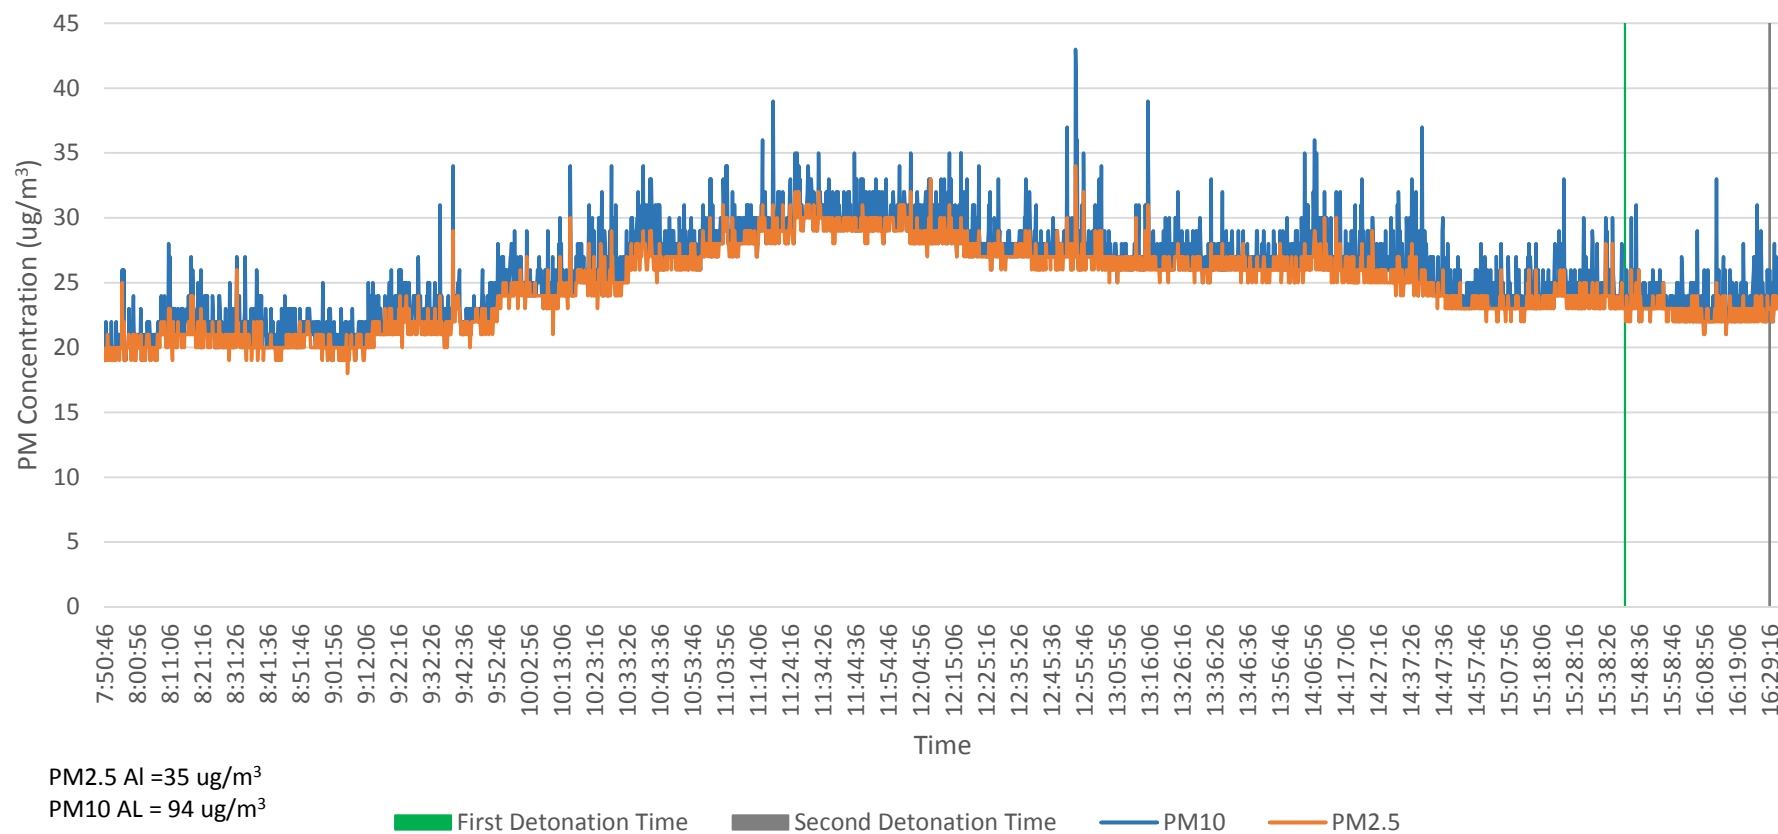

Figure 3-10. PM2.5 and PM10 on 8/11/17 at the Demolition Area Monitoring Point
- Figure 3-10. PM2.5 and PM10 on 8/11/17 at the Demolition Area Monitoring Point